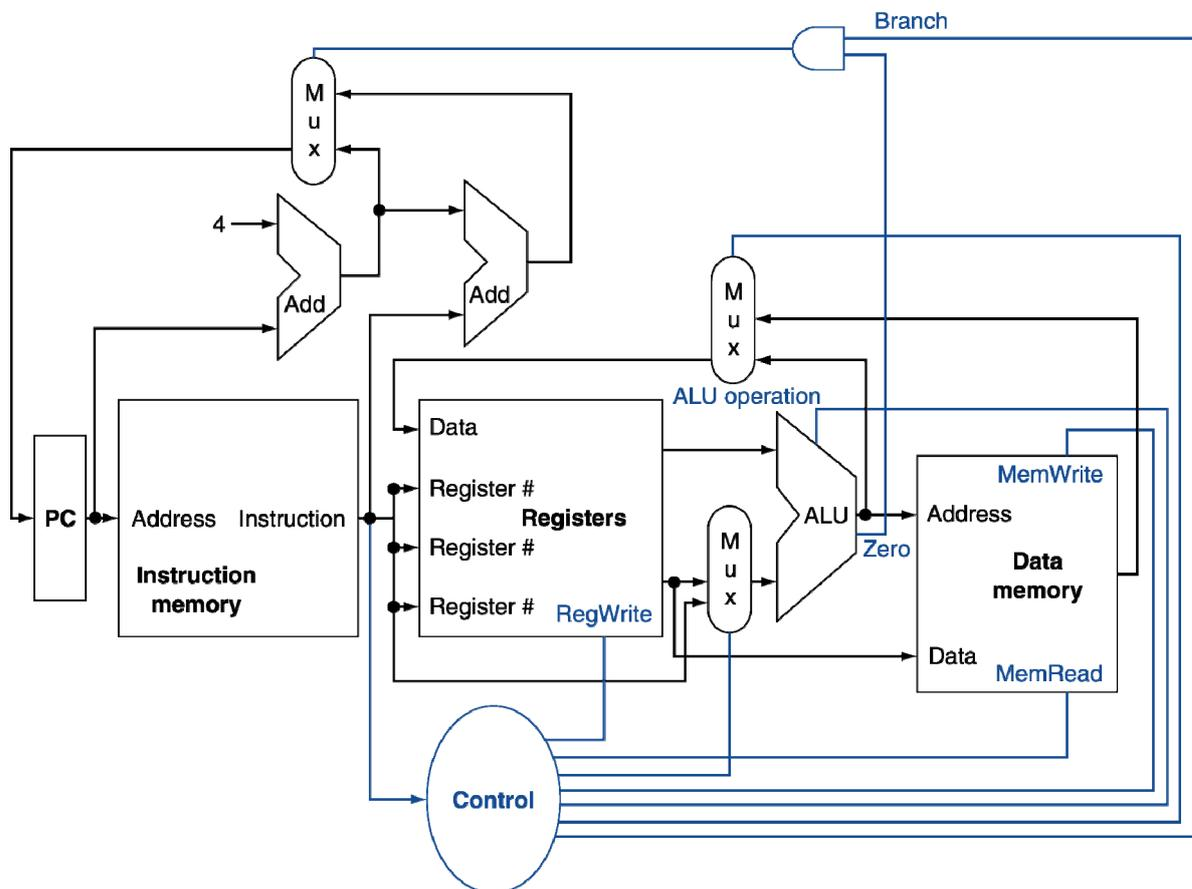

Figure 1: The basic implementation of the MIPS subset, including the necessary multiplexors and control lines.
1. Different instructions utilize different hardware blocks in the basic single-cycle implementation as shown in Figure 1. The next three problems refer to the following instruction:
- a. What are the values of control signals generated by the control in Figure 1 for this instruction?
to do their work). In Figure 1 there are seven kinds of major blocks. Latencies of blocks along the critical (longest-latency) path for an instruction determine the minimum latency of that instruction. For the following three problems, assume the following resource latencies:
- b. What is the critical path for a MIPS load (LD) instruction?
3. The basic single-cycle MIPS implementation in Figure 1 can only implement some instructions. New instructions can be added to an existing ISA, but the decision whether or not to do that depends, among other things, on the cost and complexity such an addition introduces into the processor datapath and control. The next three problems refer to this new instruction: